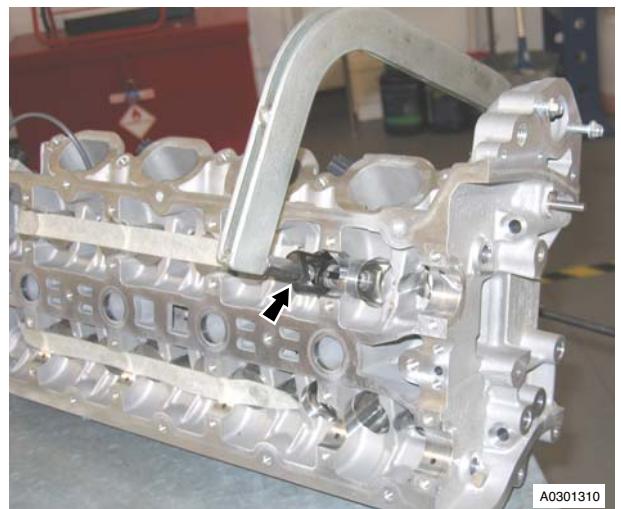

Figure 1
- Position valve spring compressor, compress valve spring (see Figure 1).